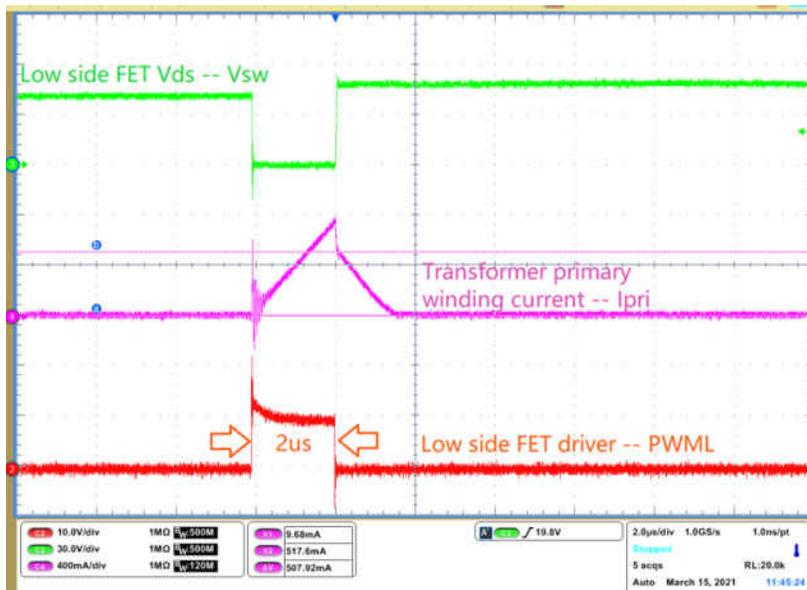

Figure 1-4. CS Pin Fault Detection - Only 1 Pulse With 2µs Width
- Step 3: Zoom in waveform at the point when VDD reaches to its turn on threshold (17.5 V), capture low side driver signal PWML, if only one pulse with a width of 2us is observed, see Figure 1-4, this is the correct behavior at the input voltage which lower than start up voltage. Please refer to Debugging UCC28780 ACF Converter Start-up Issues section 6.1 *Observation of Zero or Only One PWML Pulse*.